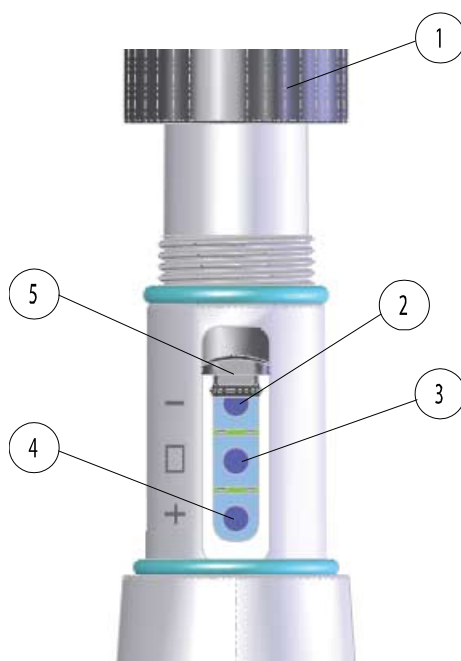

Figure 22 HMP155 Adjustment Buttons
3. Uncover the adjustment buttons on the HMP155 probe by removing the protective cover and removing the calibration seal. Refer to Figure 22 on page 51.
2. Uncover the adjustment buttons on the HMP155 probe by removing the protective cover and removing the calibration seal. Refer to Figure 22 on page 51.